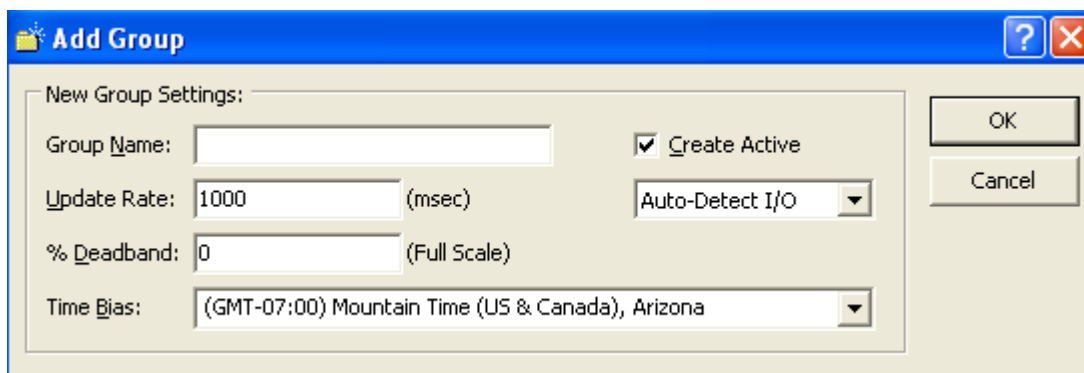

Figure 103 - Add Group Window
7. Select the **Add Group** option from the menu that appears. The **Add Group** window (Figure 103) appears.